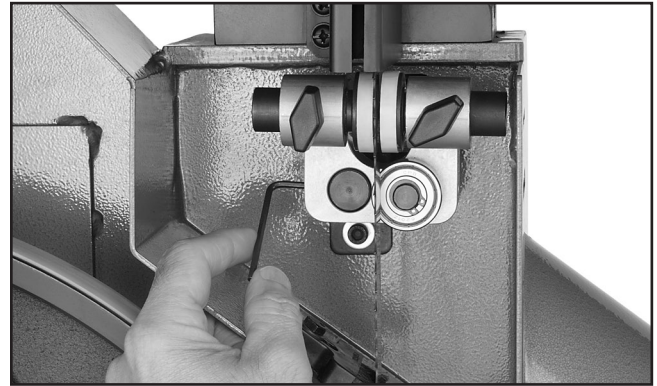

Figure 13. Securing lower block to rod.
11. Position the front of the adjustment rod flush with the face of the guide block, then tighten the set screw on the left side of the block, as shown in **Figure 13**.